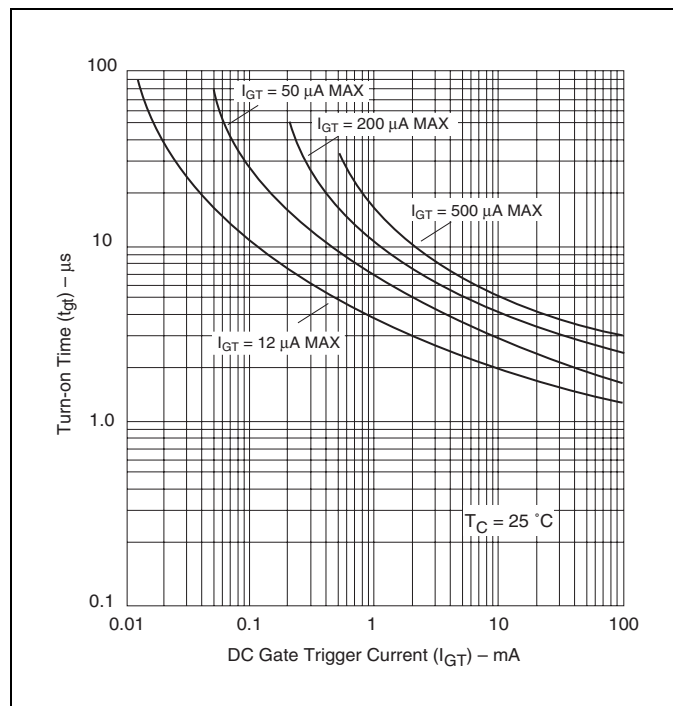
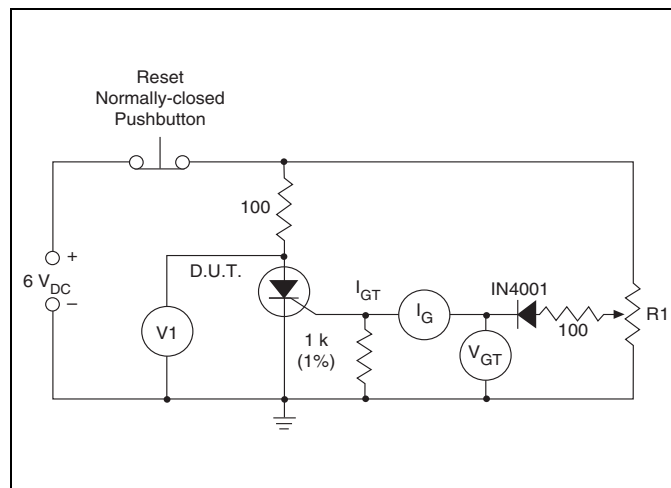

Figure E5.15 Typical Turn-on Time versus Gate Trigger Current
Figure E5.19 Simple Test Circuit for Gate Trigger Voltage and Current Measurement
- (8) See Figure E5.15 for t_{gt} versus I_{GT} .
- (9) Test conditions as follows:
- (10) Test condition is maximum rated RMS current except TO-92 devices are 1.2 A_{PK} ; T106/T107 devices are 4 A_{PK} .
- (11) See package outlines for lead form configurations. When ordering special lead forming, add type number as suffix to part number.
- (12) $V_D = 6$ V dc, $R_L = 100 \Omega$ (See Figure E5.19 for simple test circuit for measuring gate trigger voltage and gate trigger current.)